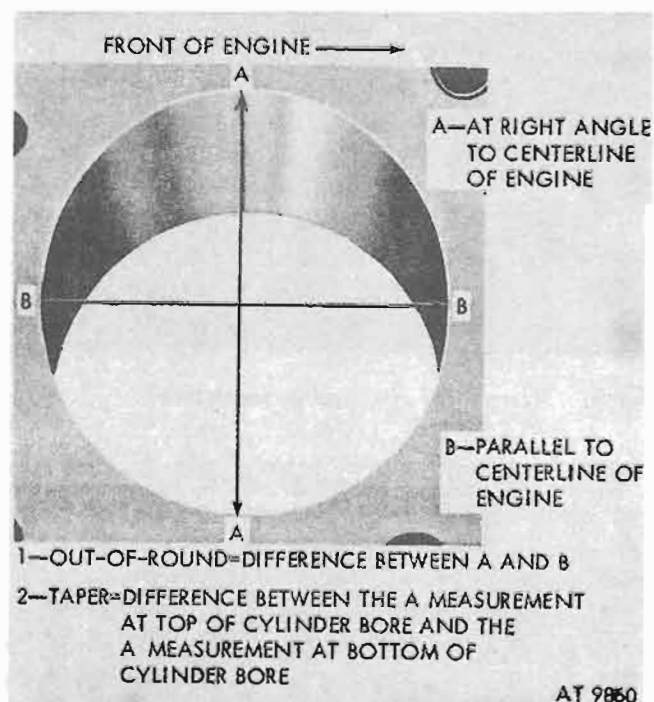

Figure 4-149. Cylinder bore and out of round taper—typical.
b. *Cylinder Block.* Check all machined gasket surfaces for burrs, nicks, scratches and scores. Remove minor imperfections with an oil stone. Check the flatness of the cylinder block gasket surface following the procedure and specifications recommended for the cylinder head. (para 4-47). Inspect the cylinder walls for scoring, roughness, or other signs of wear. Check the cylinder bore for out-of-round and taper. Measure the bore with an accurate gage as follows: Measure the diameter of each cylinder bore at the top, middle, and bottom with the gage placed at right angles and parallel to the centerline of the engine. (fig. 4-149). If the cylinder bore wear does not exceed the limits and the cylinder block is in serviceable condition, remove the high polish on the cylinder wall, before installing new rings, to aid ring seating. This is done by passing a hone or glaze-removing tool through the cylinder bore a few times. Do not hone more than enough to rough up the polish. Make sure that oiled rags are placed in the bore to catch the hone grit and that the cylinders are thoroughly cleaned before installing the piston. Replace cylinder blocks having cylinders that are deeply scored, out-of-round, or when taper exceeds wear limits. If the cylinder walls have minor surface imperfections, but the out-of-round and taper are within limits, it may be possible to remove the imperfections by honing the cylinder wall and installing new service piston rings, provided the piston clearance is within limits. Use the finest grade of honing stone for this operation.